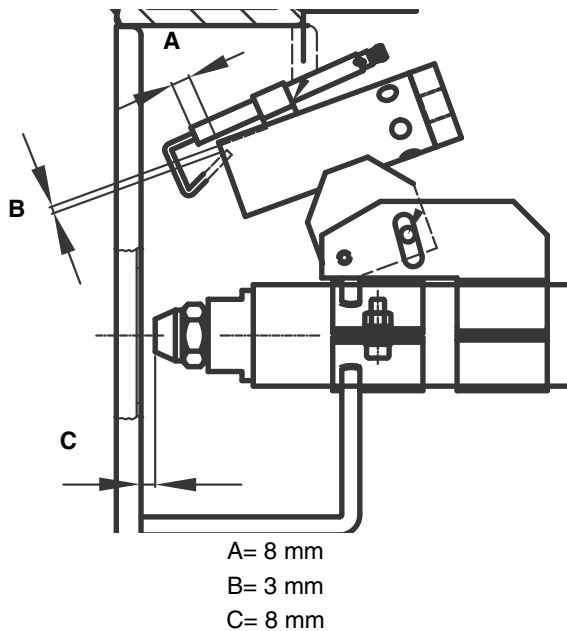

Fig. 25
- Check and clean the ignition electrode on the pilot burner, adjustment and, if necessary, replacement (Fig. 25).
To guarantee a good ignition, the masures below (in mm) must be observed (Fig. 25).
- 5 remove the electrode and replace it referring to the measures shown on Fig. 25.